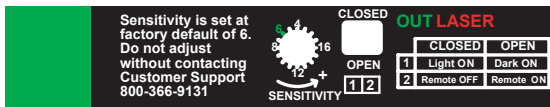

Figure 4 - Indicators & Controls
- D) Yellow wire is not required if Remote Selector Switch (see figure 4) is set to CLOSED. The current limiting resistor R2 needed in previous model sensors is not required. However, the sensor will work with R2 (up to 700 ohms) installed in the wiring external to the sensor.